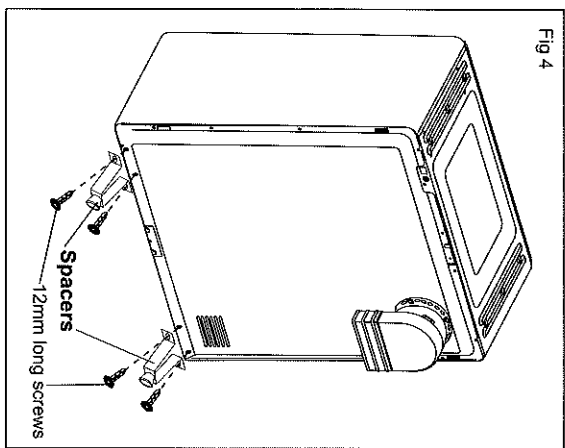

Fig 4
7. Using 4 x 12mm screws (provided) to fix the 2 spacers as per Fig. 4.